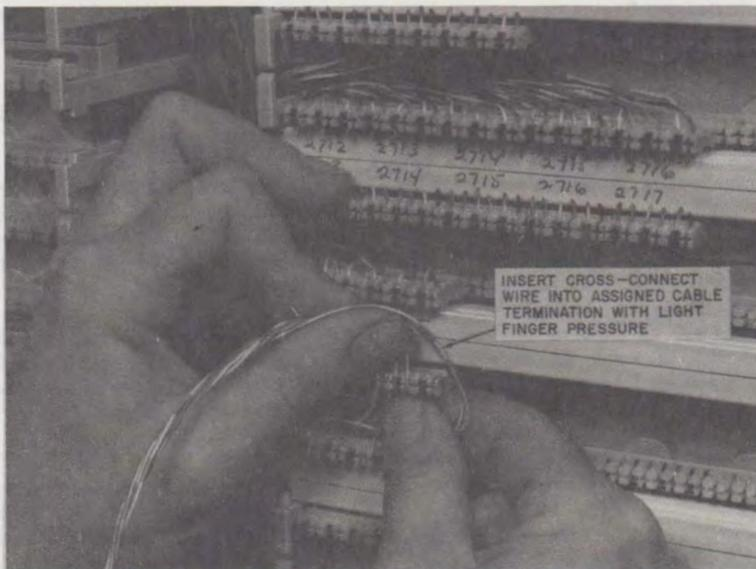

Fig. 23—Inserting Cross-Connect Wire
3.19 Insert the F-type, 24-gauge cross-connect wire into the connecting block slots as shown in Fig. 23. Light finger pressure is sufficient to insure retention of the wire in its proper location. *Leave 2 inches of slack in the wire for tracing and repairing.* Cross-connect wire may be routed through either fanning strip for shortest wire runs.